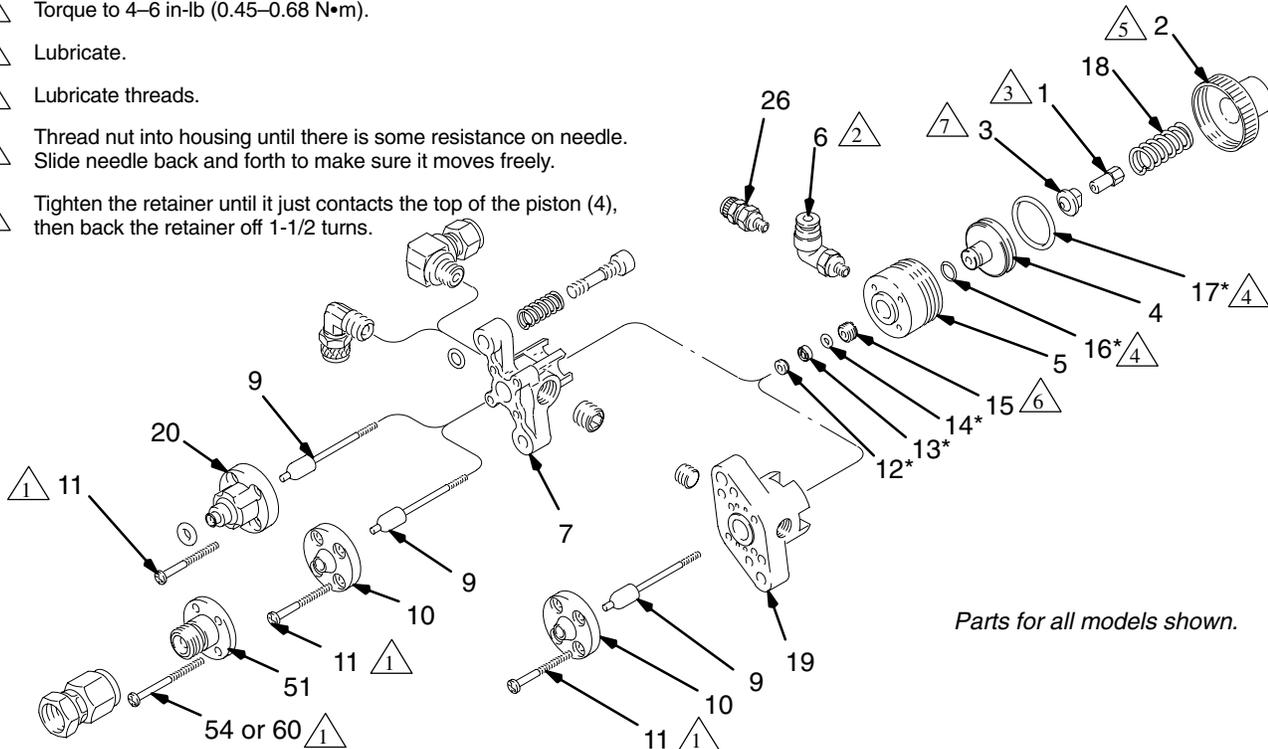

Fig. 1
1. Push in on the quick disconnect of the elbow fitting (6) and pull out the air tube. Disconnect the fluid lines. See Fig. 1.
3. Remove the retaining cap (2) and spring (18).
4. Using a wrench on each part, unscrew and remove the retaining nut (1) and the piston retainer (3).
5. Remove the four screws (11, 54, or 60), valve adapter (51) on Models 236852 and 907483, and seat (10 or 20) from the fluid housing (7 or 19).
6. Separate the fluid housing from the piston housing (5).
- 1 ⚠ Torque screws (11) oppositely and evenly to 3–5 in-lb (0.34–0.56 N•m). If leakage occurs, torque to 8 in-lb (0.91 N•m) maximum.
- Lubricate the o-rings (16* and 17*) with petroleum jelly and place them on the piston (4).
- Install the piston (4) in the piston housing (5).
- Thread the fitting (6 or 26) into the piston housing (5). Tighten the fitting to the torque shown in Fig. 1.